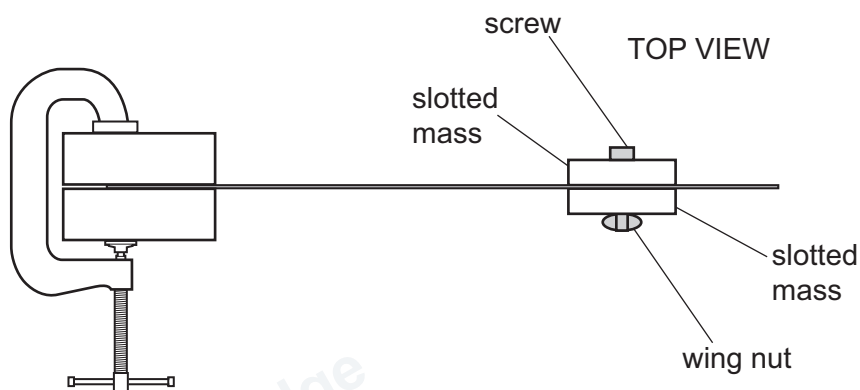

Figure 2.3
- Position the slotted masses either side of the hacksaw blade with the screw resting on the top of the hacksaw blade as shown in Figure 2.3.